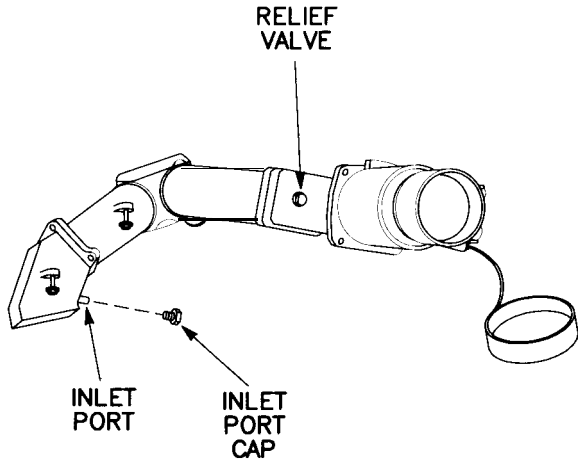

Figure 3-59 Commander's Display
(1) Commander's Display (fig. 3-59)